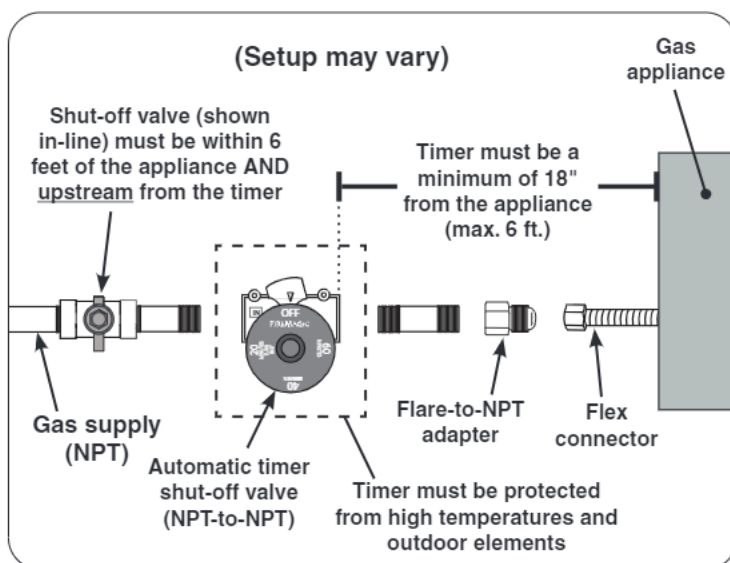

Fig. 1-1 Timer installation overview
In addition to following the CONNECT GAS SUPPLY section of the gas appliance owner's manual, install the timer in the gas supply line (between the shut-off valve and the appliance). See Fig. 1-1 and 1-2.
- Follow ALL information found in the requirements section above, in the gas appliance owner's manual, and in Fig. 1-1 and 1-2.